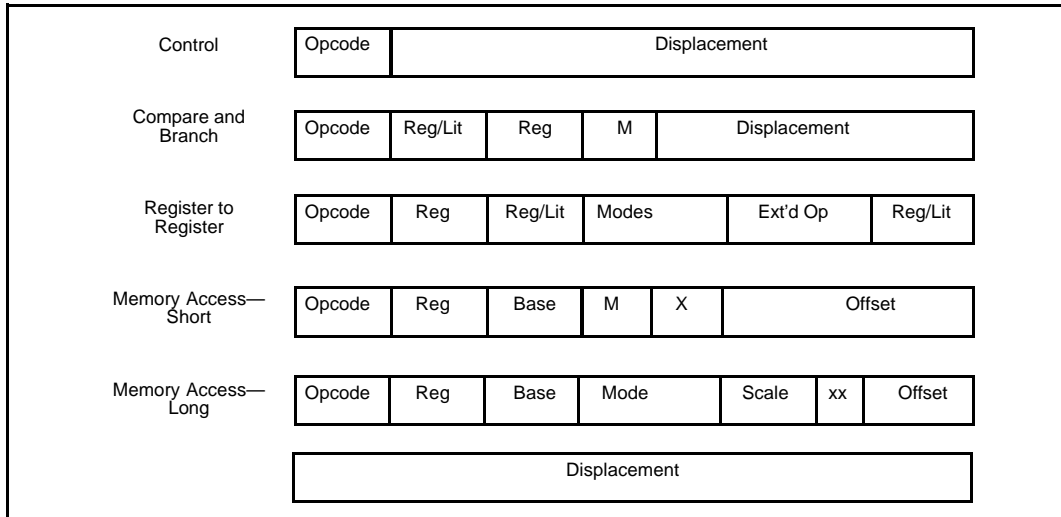

Figure 3. Instruction Formats
- 4. Simple Instruction Formats.** All instructions in the 80960KB are 32 bits long and must be aligned on word boundaries. This alignment makes it possible to eliminate the instruction alignment stage in the pipeline. To simplify the instruction decoder, there are only five instruction formats; each instruction uses only one format. (See Figure 3.)